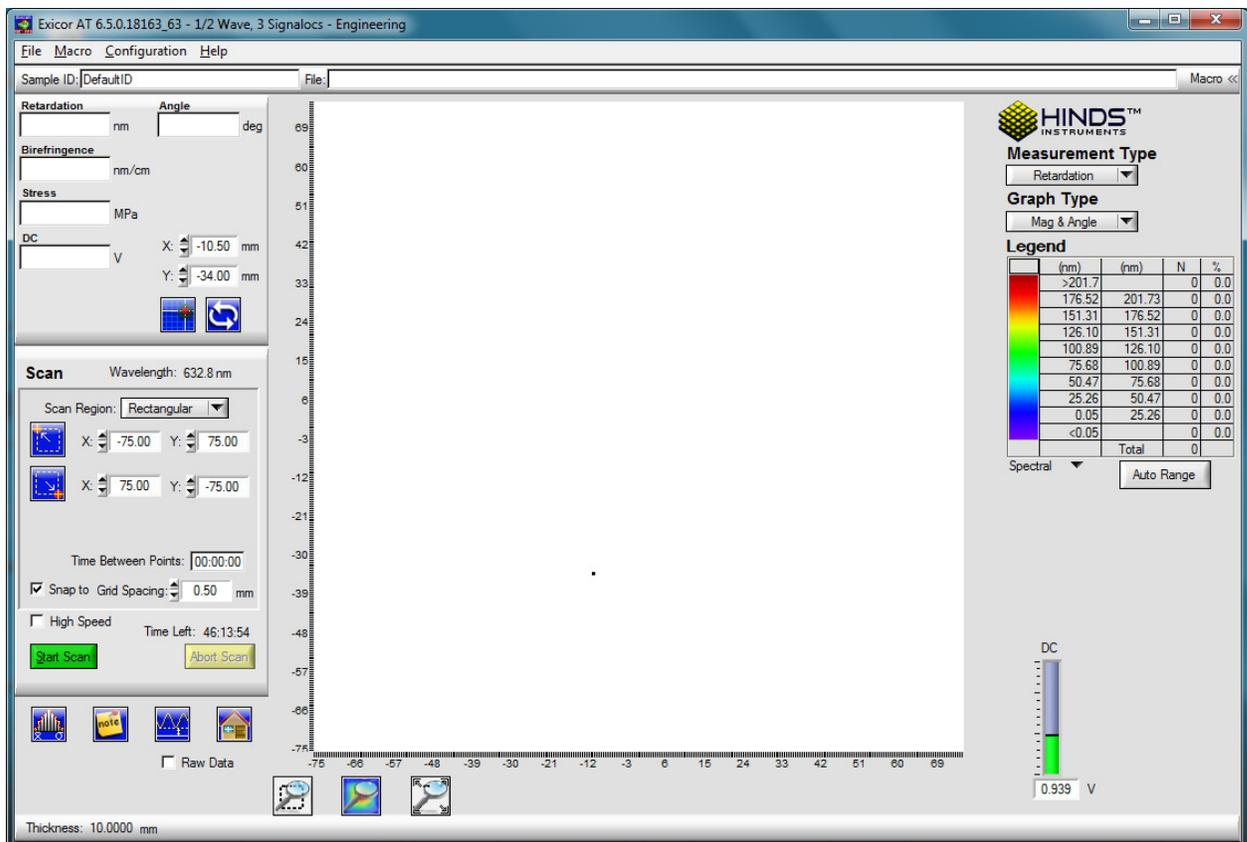

Figure 3.3 Exicor Main Window at Startup
2. Figure 3.3. The main window may show different controls depending on the options purchased with the system.